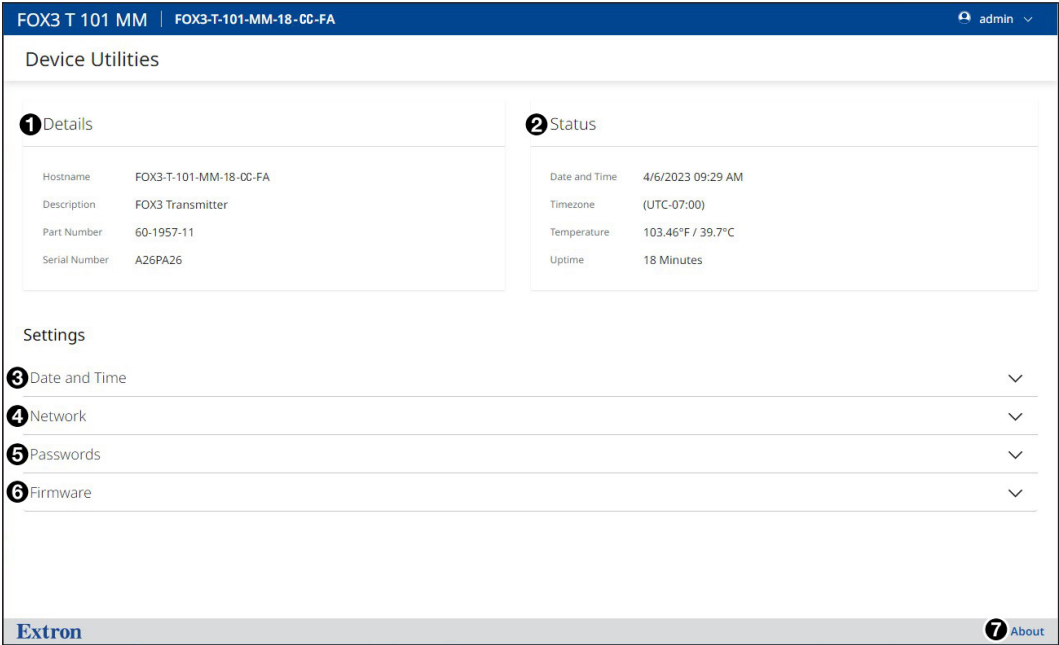

Figure 28. FOX3 T 101 Internal Web Page
1. Click **EDIT** in the **Date and Time** panel. The editable fields are displayed (see figure 28).